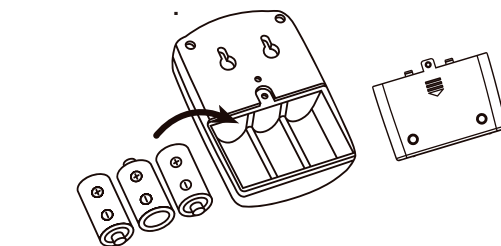

Fig. 5
- Install three "C" batteries in the receiver. (Fig.5)